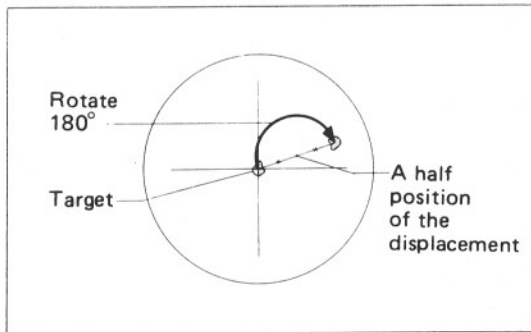

Fig. 10
- 3) Rotate the stage about 180° , and the target is displaced from the center of the cross lines. Move the objective using the centering tools so that the center of the cross lines comes to one half position of the displacement of the target. (Fig. 10)